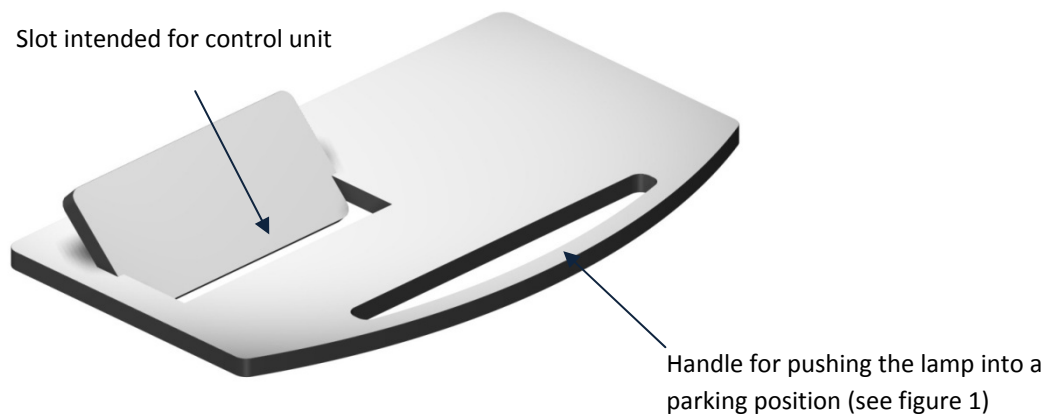

Figure 10: Storage tray for mobile LED lamp
c) The storage shelf consists of the following components (figure 10):